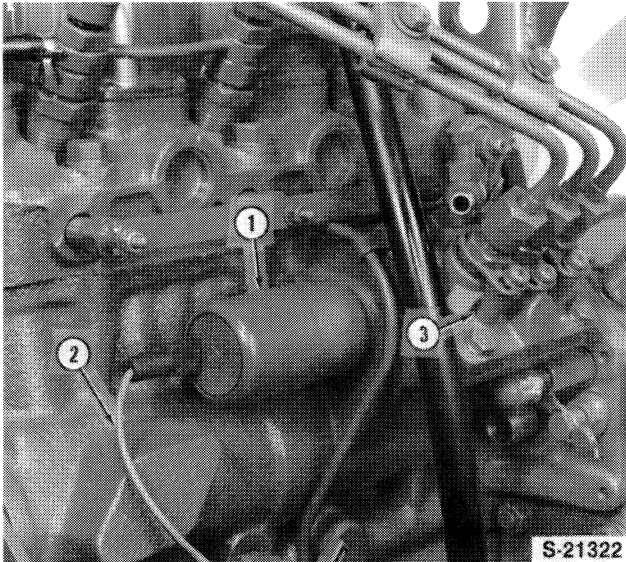

Figure 13
- 15. Disconnect the wire (2) from the injection pump solenoid stop control, Figure 13.